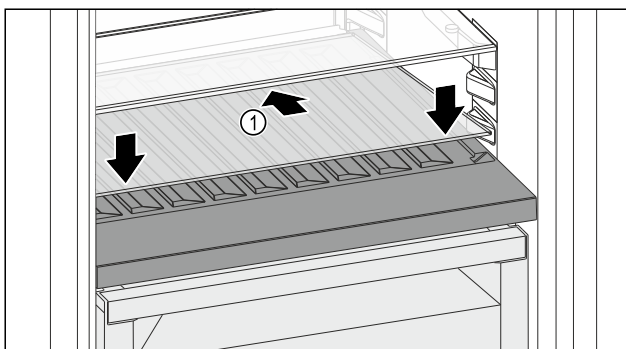

Fig. 143
- ▶ Place the glass shelf Fig. 143 (1) at an angle, sloping it downwards and backwards.
- ▶ Lower the glass shelf Fig. 143 (1) at the front.